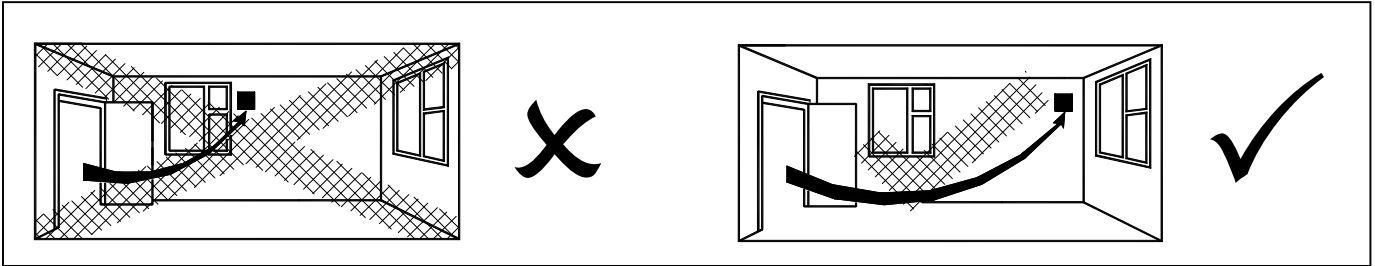
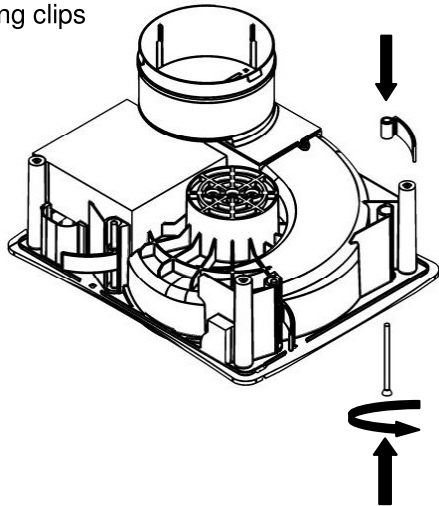

Fig. 1.
Fig. 6. PIR sensor cable - (**TM only**)
2. Removing the grille. Firstly remove the front cover by carefully pulling each corner of the front panel until it is free to be removed from the inner grille (Fig 1). Unscrew the two screws at the bottom of the inner grille. The screws will remain in the inner grille but will be loose when the grille is ready to be removed (Fig 1). Lift the inner grille from the bottom edge ensuring not to damage the sensor cable (TM model only) attached to the front assembly and Base Housing (Fig 6).
8. Replace the inner grille ensuring that the PIR sensor cable (TM model only) is reconnected to the PIR sensor PCB (Fig 6) Replace the front panel.
10. Replace the inner grille ensuring that the PIR sensor cable (TM model only) is reconnected to the PIR sensor PCB (Fig 6). Replace the front panel.
5. Removing the grille. Firstly remove the front cover by carefully pulling each corner of the front panel until it is free to be removed from the inner grille (Fig 1). Unscrew the two screws at the bottom of the inner grille. The screws will remain in the inner grille but will be loose when the grille is ready to be removed (Fig 1). Lift the inner grille from the bottom edge ensuring not to damage the sensor cable (TM model only) attached to the front assembly and Base Housing (Fig 6).
12. Replace the inner grille ensuring that the PIR sensor cable (TM model only) is reconnected to the PIR sensor PCB (Fig 6). Replace the front panel.